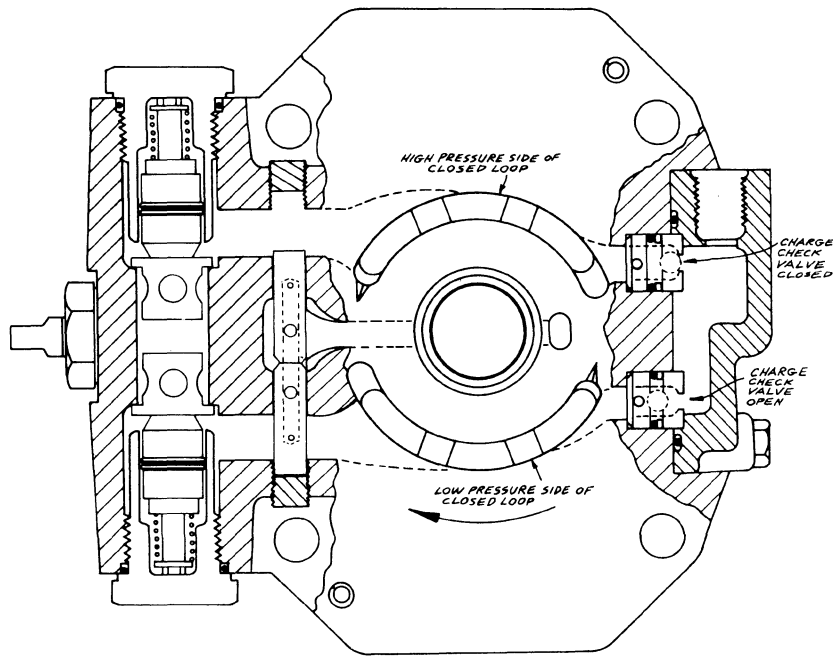

FIGURE 8
(3) When the operator moves the controls to turn the pump cam plate, pressure builds up in one side of the closed loop. The charge check valve on that side closes. Charge oil will enter the other charge valve and maintain the 65 psi pressure in the **low** pressure side of the closed loop. See Figure 8.